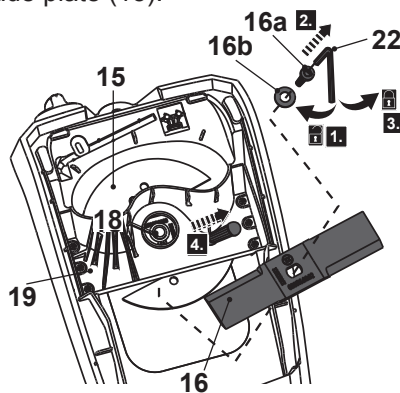

Fig. 13
9. Keep the spindle (18) locked and loosen the locking bolt (16a) anti-clockwise using the delivered hex key (22) (Fig. 13, step 1) and remove it together with the cutting blade (16) and the washer (16b) (Fig. 13, step 1).
**NOTE:** The cutting blade (16) can be used from two sides. For the first replacement turn the cutting blade (16) vertically 180° and re-fit it. If both sides of a cutting blade (16) are worn out, replace with a new cutting blade (16).
10. Check the status of the blade plate (15) onto the spindle (18) firstly, then attach the cutting blade (16) onto the blade plate (15).
11. Attach the washer (16b) on the locking bolt (16a), then screw the locking bolt (16a) clockwise into the thread of the spindle (18) properly. Keep the spindle (18) locked and tighten the locking bolt (16a) clockwise to ensure safe operation of your product (Fig. 13, step 3). Do not overtighten.
12. Remove the tool from the location holes (15a, 19a) from the blade plate (15) and the blade guard (19) afterwards (Fig. 13, step 4).